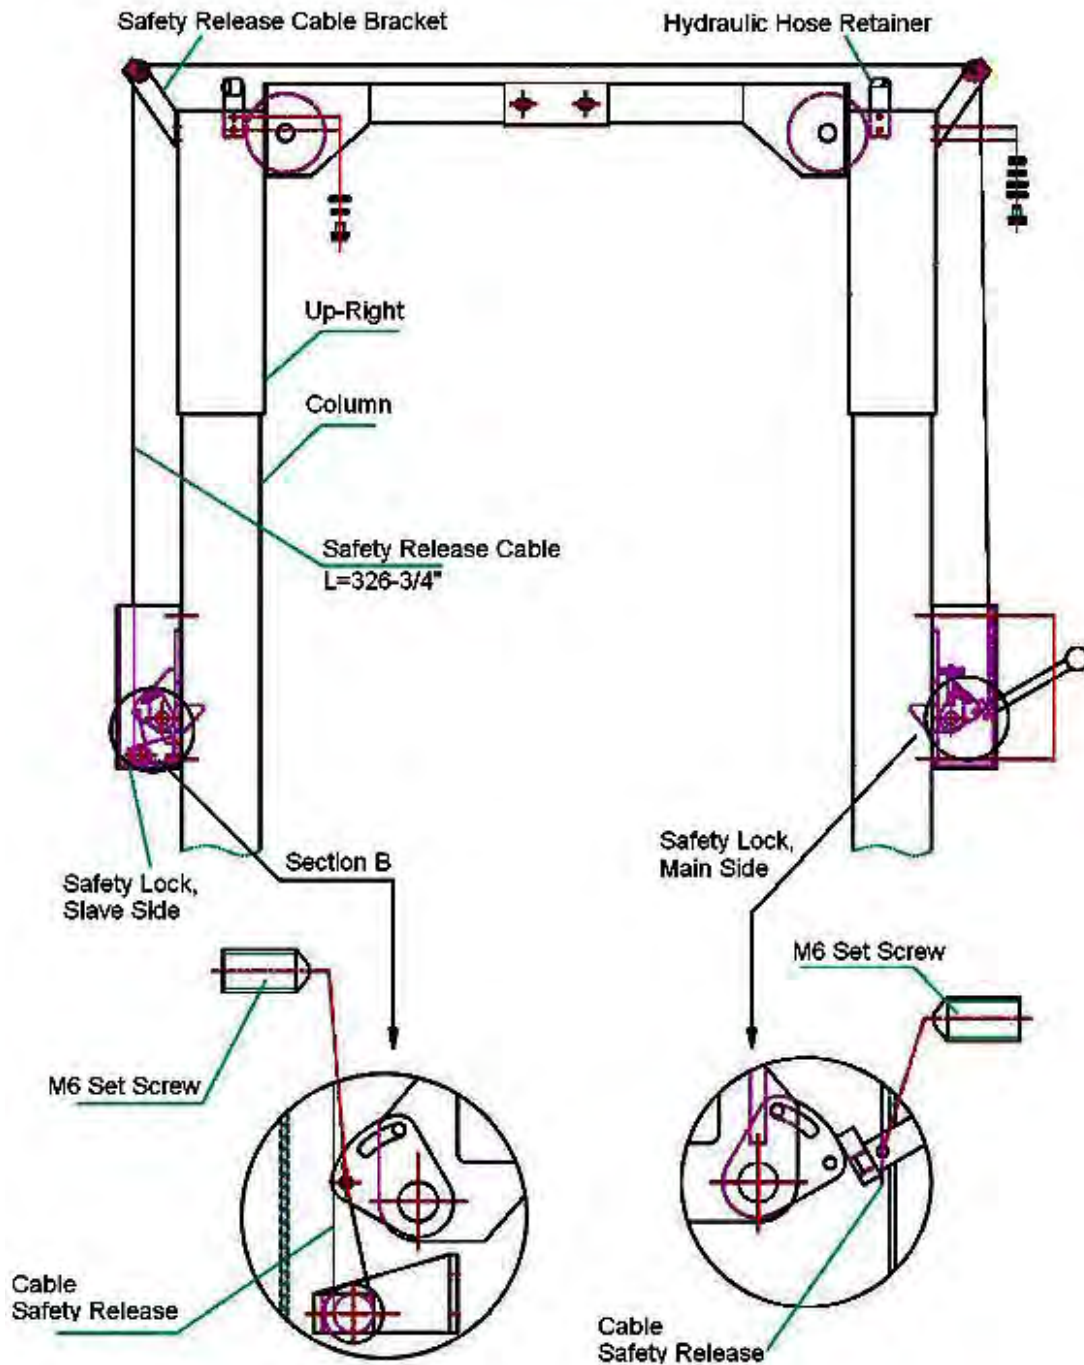

Figure 2-6. Safety Release Cable Installation
STEP 14: Connect the safety release cable between the two latches as shown on figure 2-6 on page 2-8. Check that the tension of the cable is tight. Pull the single point release handle several times and check the tension again by making sure both latches release at the same time when the handle is pulled.